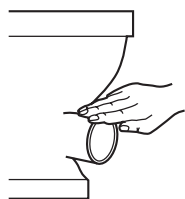

Fig.34a Lubricating pan spigot
**Step 2** – Lubricate WC spigot with 9136 Lubricant (Fig.34a)